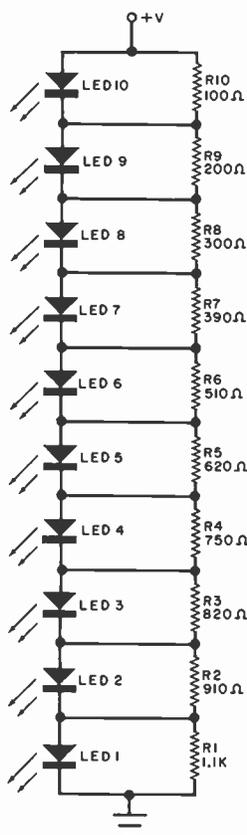

Fig. 1. Resistor voltage-sensitive bargraph.
**Resistor Voltage-Sensitive Bargraph.** You can make a simple but reliable LED bargraph readout from a string of resistors connected across a string of LED's as shown in Fig. 1. The resistors form a voltage divider. A single LED requires a certain forward voltage to produce light, and each LED in the circuit glows when the voltage across its resistor reaches this value. Since the voltage across the larger resistors increases faster than the voltage across the smaller resistors, when a gradually increased voltage is connected to the circuit, the LED's begin glowing sequentially until all are turned on.
With the values shown in Fig. 1, LED1 will begin glowing with about